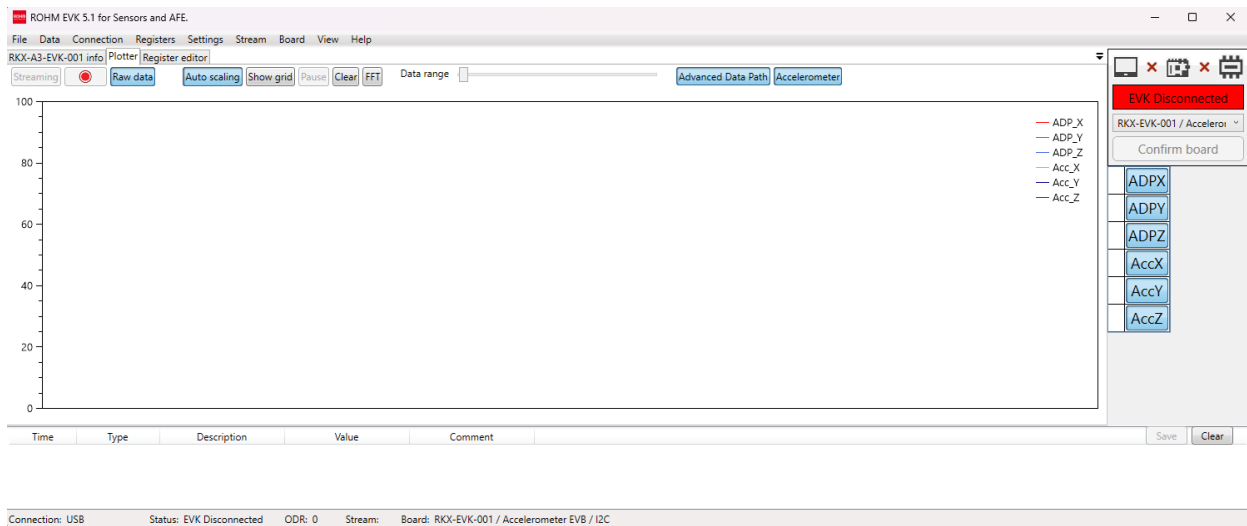

Figure 9 ROHM EVK GUI plotter tab
- Plotter tab. (7.7) (Figure 9)